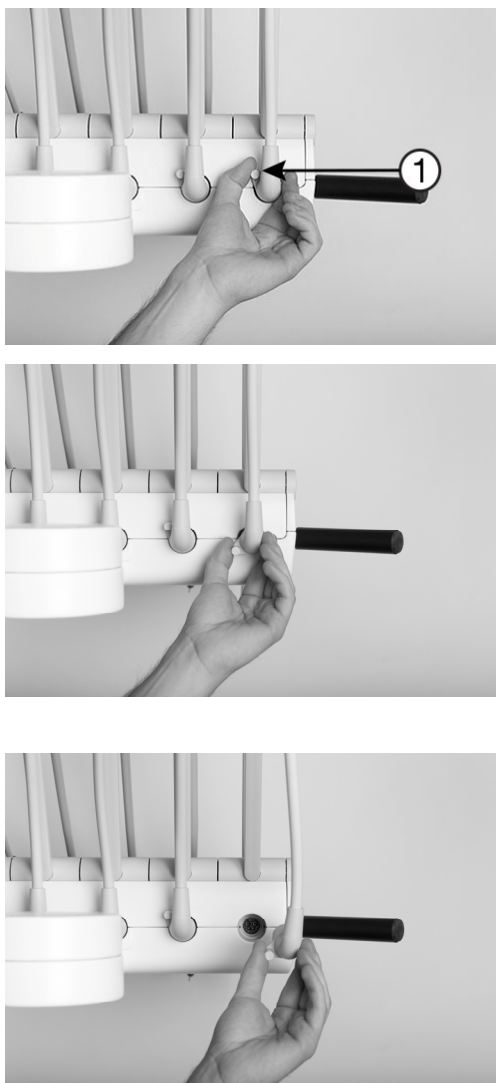

Figure 70 – Removing instrument hose, (1) release handle
Remove the instrument hose by turning the release handle (1) counter-clockwise and pulling out the plug as shown in Figure 70.